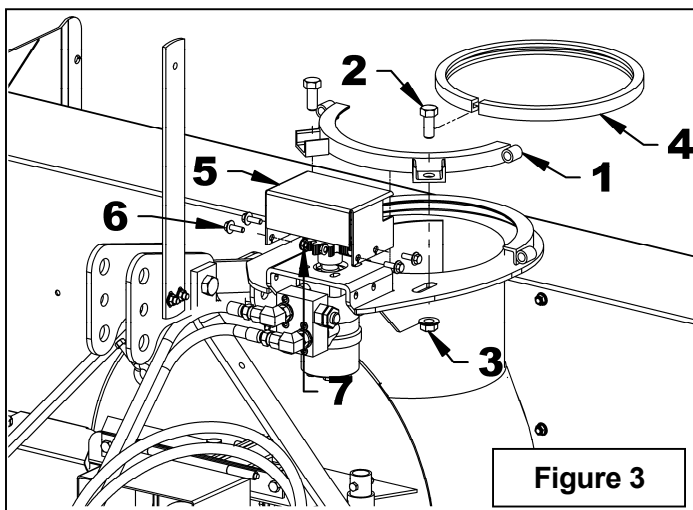

Figure 3
- Figures 3:** Remove the retaining plate (item 1) by removing the two 5/8" x 1 1/2 bolts (item 2) and 5/8" serrated flange nuts (item 3).
- Figures 3:** Remove the rotation ring (item 4) and the gear shield (item 5) by removing the four 5/16" x 1" serrated flange nuts (item 6) and the 5/16" serrated flange nuts (item 7).